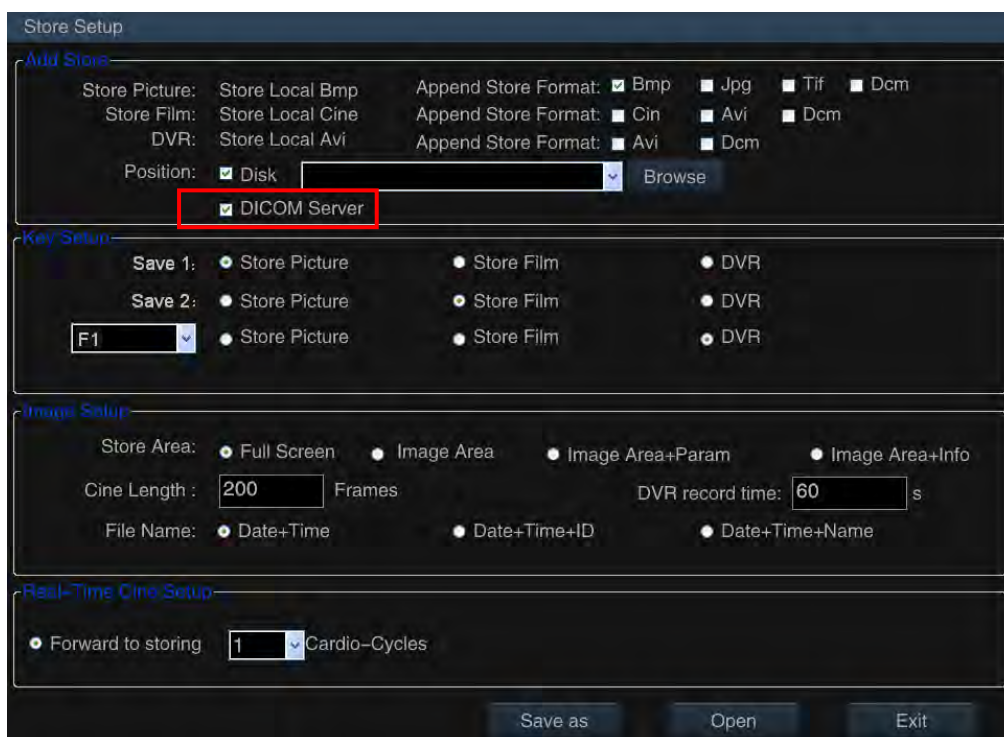

Figure 232: Store Setup screen
- Select the **DICOM server**, as shown in Figure 232. If, after creating the settings, you click on the Image save button, the image is saved on the local hard disk, while a DICOM single frame is sent to the DICOM server.